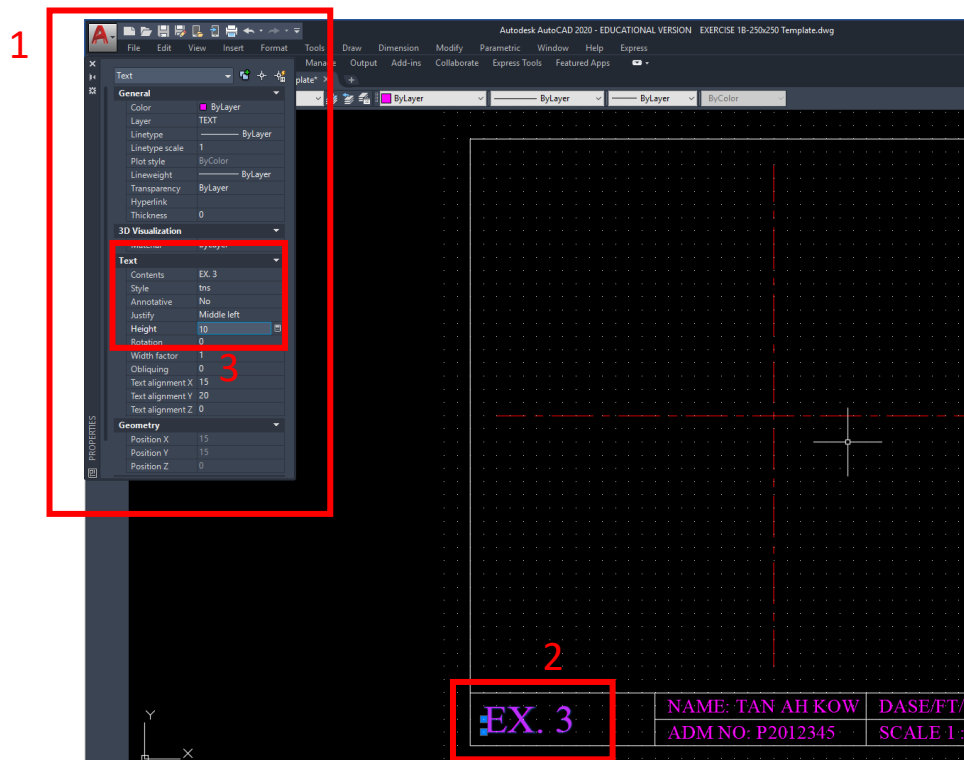

Fig 18
- iv. See Fig 18 where EX.3 has a changed Text Height= 10mm **(2)**